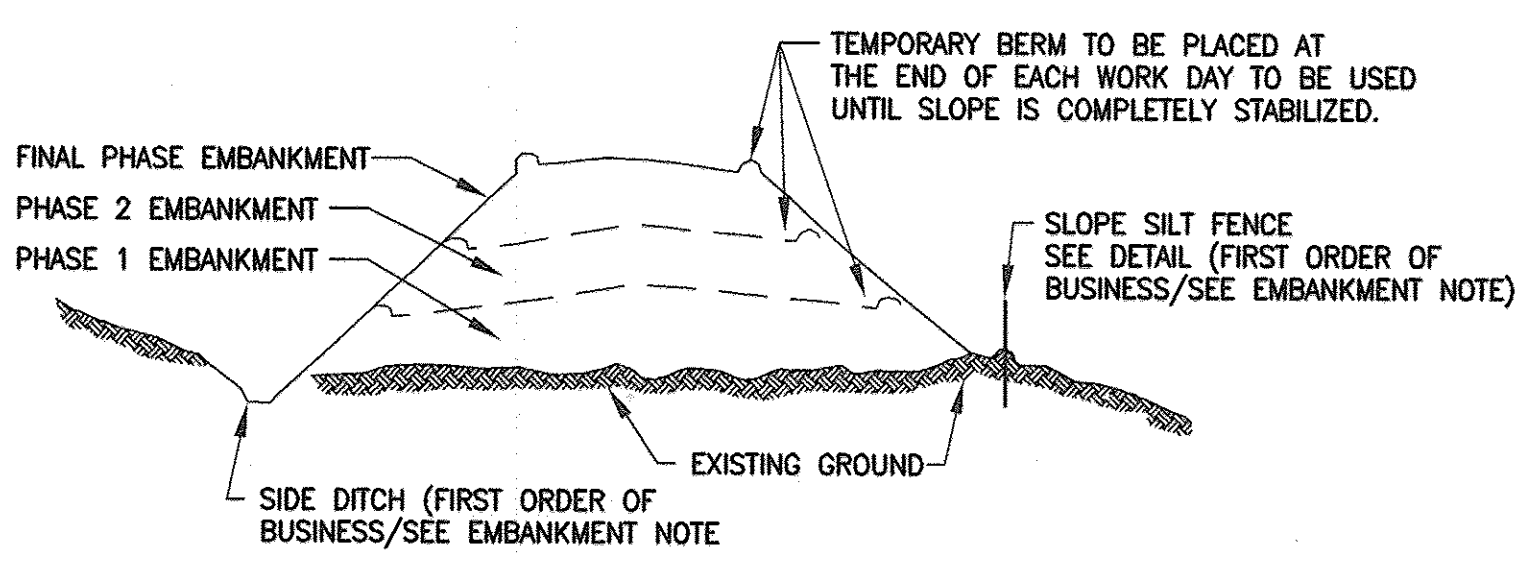

FIGURE 5: INCREMENTAL STABILIZATION - FILL
- CONSTRUCTION SEQUENCE: REFER TO FIGURE 5 (BELOW).
- EXCAVATE AND STABILIZE ALL TEMPORARY SWALES, SIDE DITCHES, OR BERMS THAT WILL BE USED TO DIVERT RUNOFF AROUND THE FILL. CONSTRUCT SLOPE SILT FENCE ON LOW SIDE OF FILL AS SHOWN IN FIGURE 5, UNLESS OTHER METHODS SHOWN ON THE PLANS ADDRESS THIS AREA.
- SELECT ONE OR MORE OF THE SPECIES OR MIXTURES LISTED IN TABLE 26 FOR APPROPRIATE PLANT HARDINESS ZONE (FROM FIGURE 5) AND ENTER THEM IN THE TEMPORARY SEEDING SUMMARY BELOW, ALONG WITH APPLICATION RATES, SEEDING DATES, AND SEEDING DEPTHS. IF THIS SUMMARY IS NOT PUT ON THE PLANS AND COMPLETED, THEN TABLE 26 MUST BE PUT ON THE PLANS.
- SELECT ONE OR MORE OF THE SPECIES OR MIXTURES LISTED IN TABLE 25 FOR THE APPROPRIATE PLANT HARDINESS ZONE (FROM FIGURE 5) AND ENTER THEM IN THE PERMANENT SEEDING SUMMARY BELOW, ALONG WITH APPLICATION RATES AND SEEDING DATES. SEEDING DEPTHS CAN BE ESTIMATED USING TABLE 26. IF THIS SUMMARY IS NOT PUT ON THE CONSTRUCTION PLANS AND COMPLETED, THEN TABLE 25 MUST BE PUT ON THE PLANS. ADDITIONAL PLANTING SPECIFICATIONS FOR EXCEPTIONAL SITES SUCH AS SHORELINES, STREAMBANKS, OR DUNES OR FOR SPECIAL PURPOSES SUCH AS WILDLIFE OR OR AESTHETIC TREATMENT MAY BE FOUND IN USDA-SCS FIELD OFFICE TECHNICAL GUIDE, SECTION 342 - CRITICAL AREA PLANTING. FOR SPECIAL LAWN MAINTENANCE AREAS, SEE SECTIONS IV SOD AND V TURFGRASS.